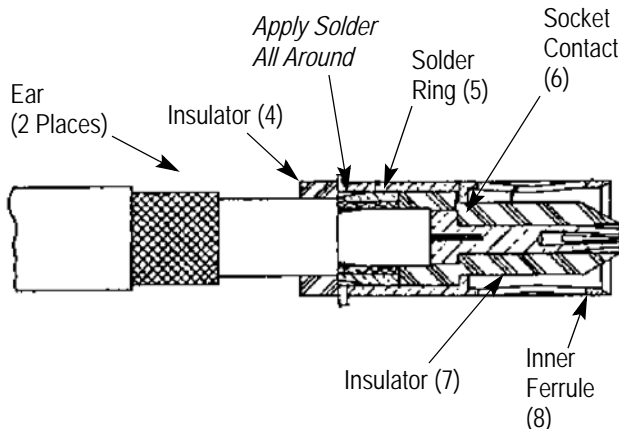

Figure 5
Assemble insulator (7) and inner ferrule (8) as shown in Figure 5.